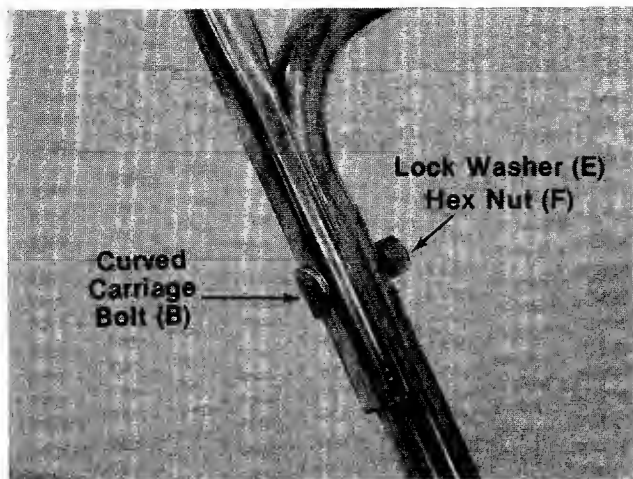

FIGURE 3.
- ← **A. Units with Non-Folding Handle**—Secure upper handle with two curved carriage bolts (B), lock washers (E) and hex nuts (F). See figure 3.
- B. Units with Folding Handle**—Secure with two carriage bolts (B) and hand knobs (A). The knobs can be either to the inside or outside of the handle.